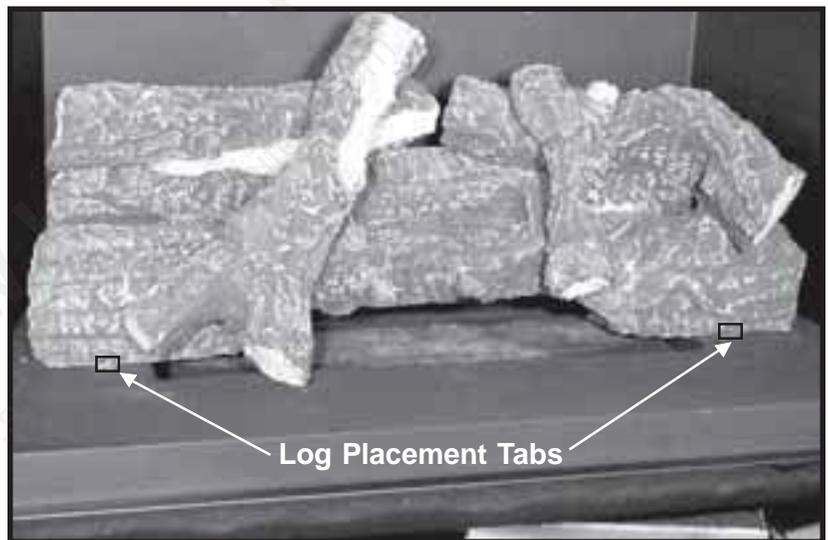

Figure 44
- Carefully position the log set in place into the fireplace. Pull the log set forward until the log set contacts the log placement tabs. Center the log set in the firebox side to side (see Figure 44). (Grate removed for viewing.)